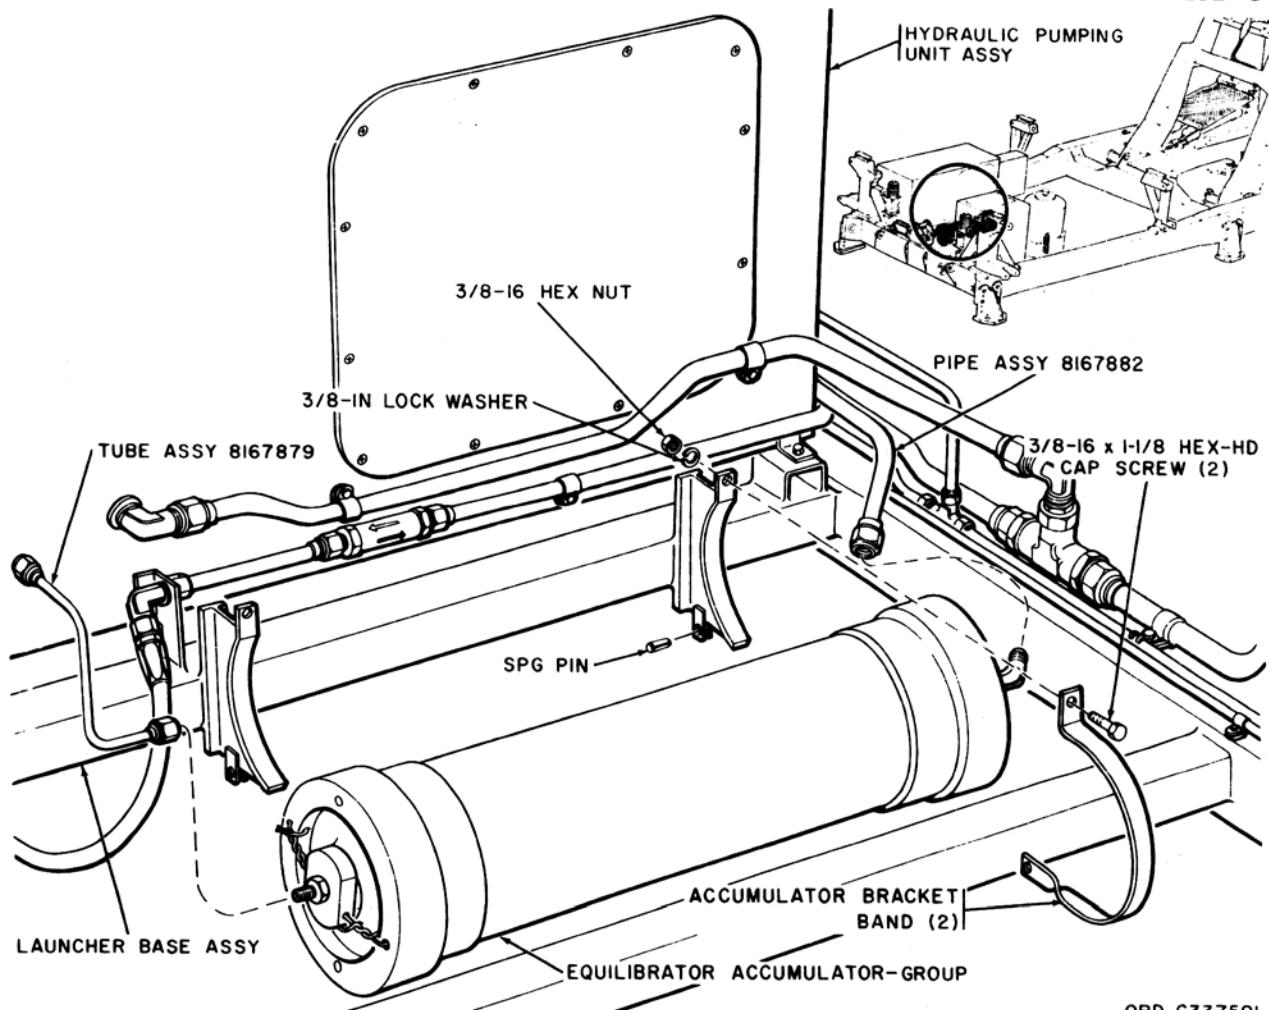

Figure 170. Equilibrator accumulator group—removal and installation.
The equilibrator accumulator group (fig. 170) is located on the launcher base assembly, to the left of the hydraulic pumping unit assembly.
(1) Perform a visual inspection of the UUT (equilibrator accumulator group—fig. 170) for completeness of